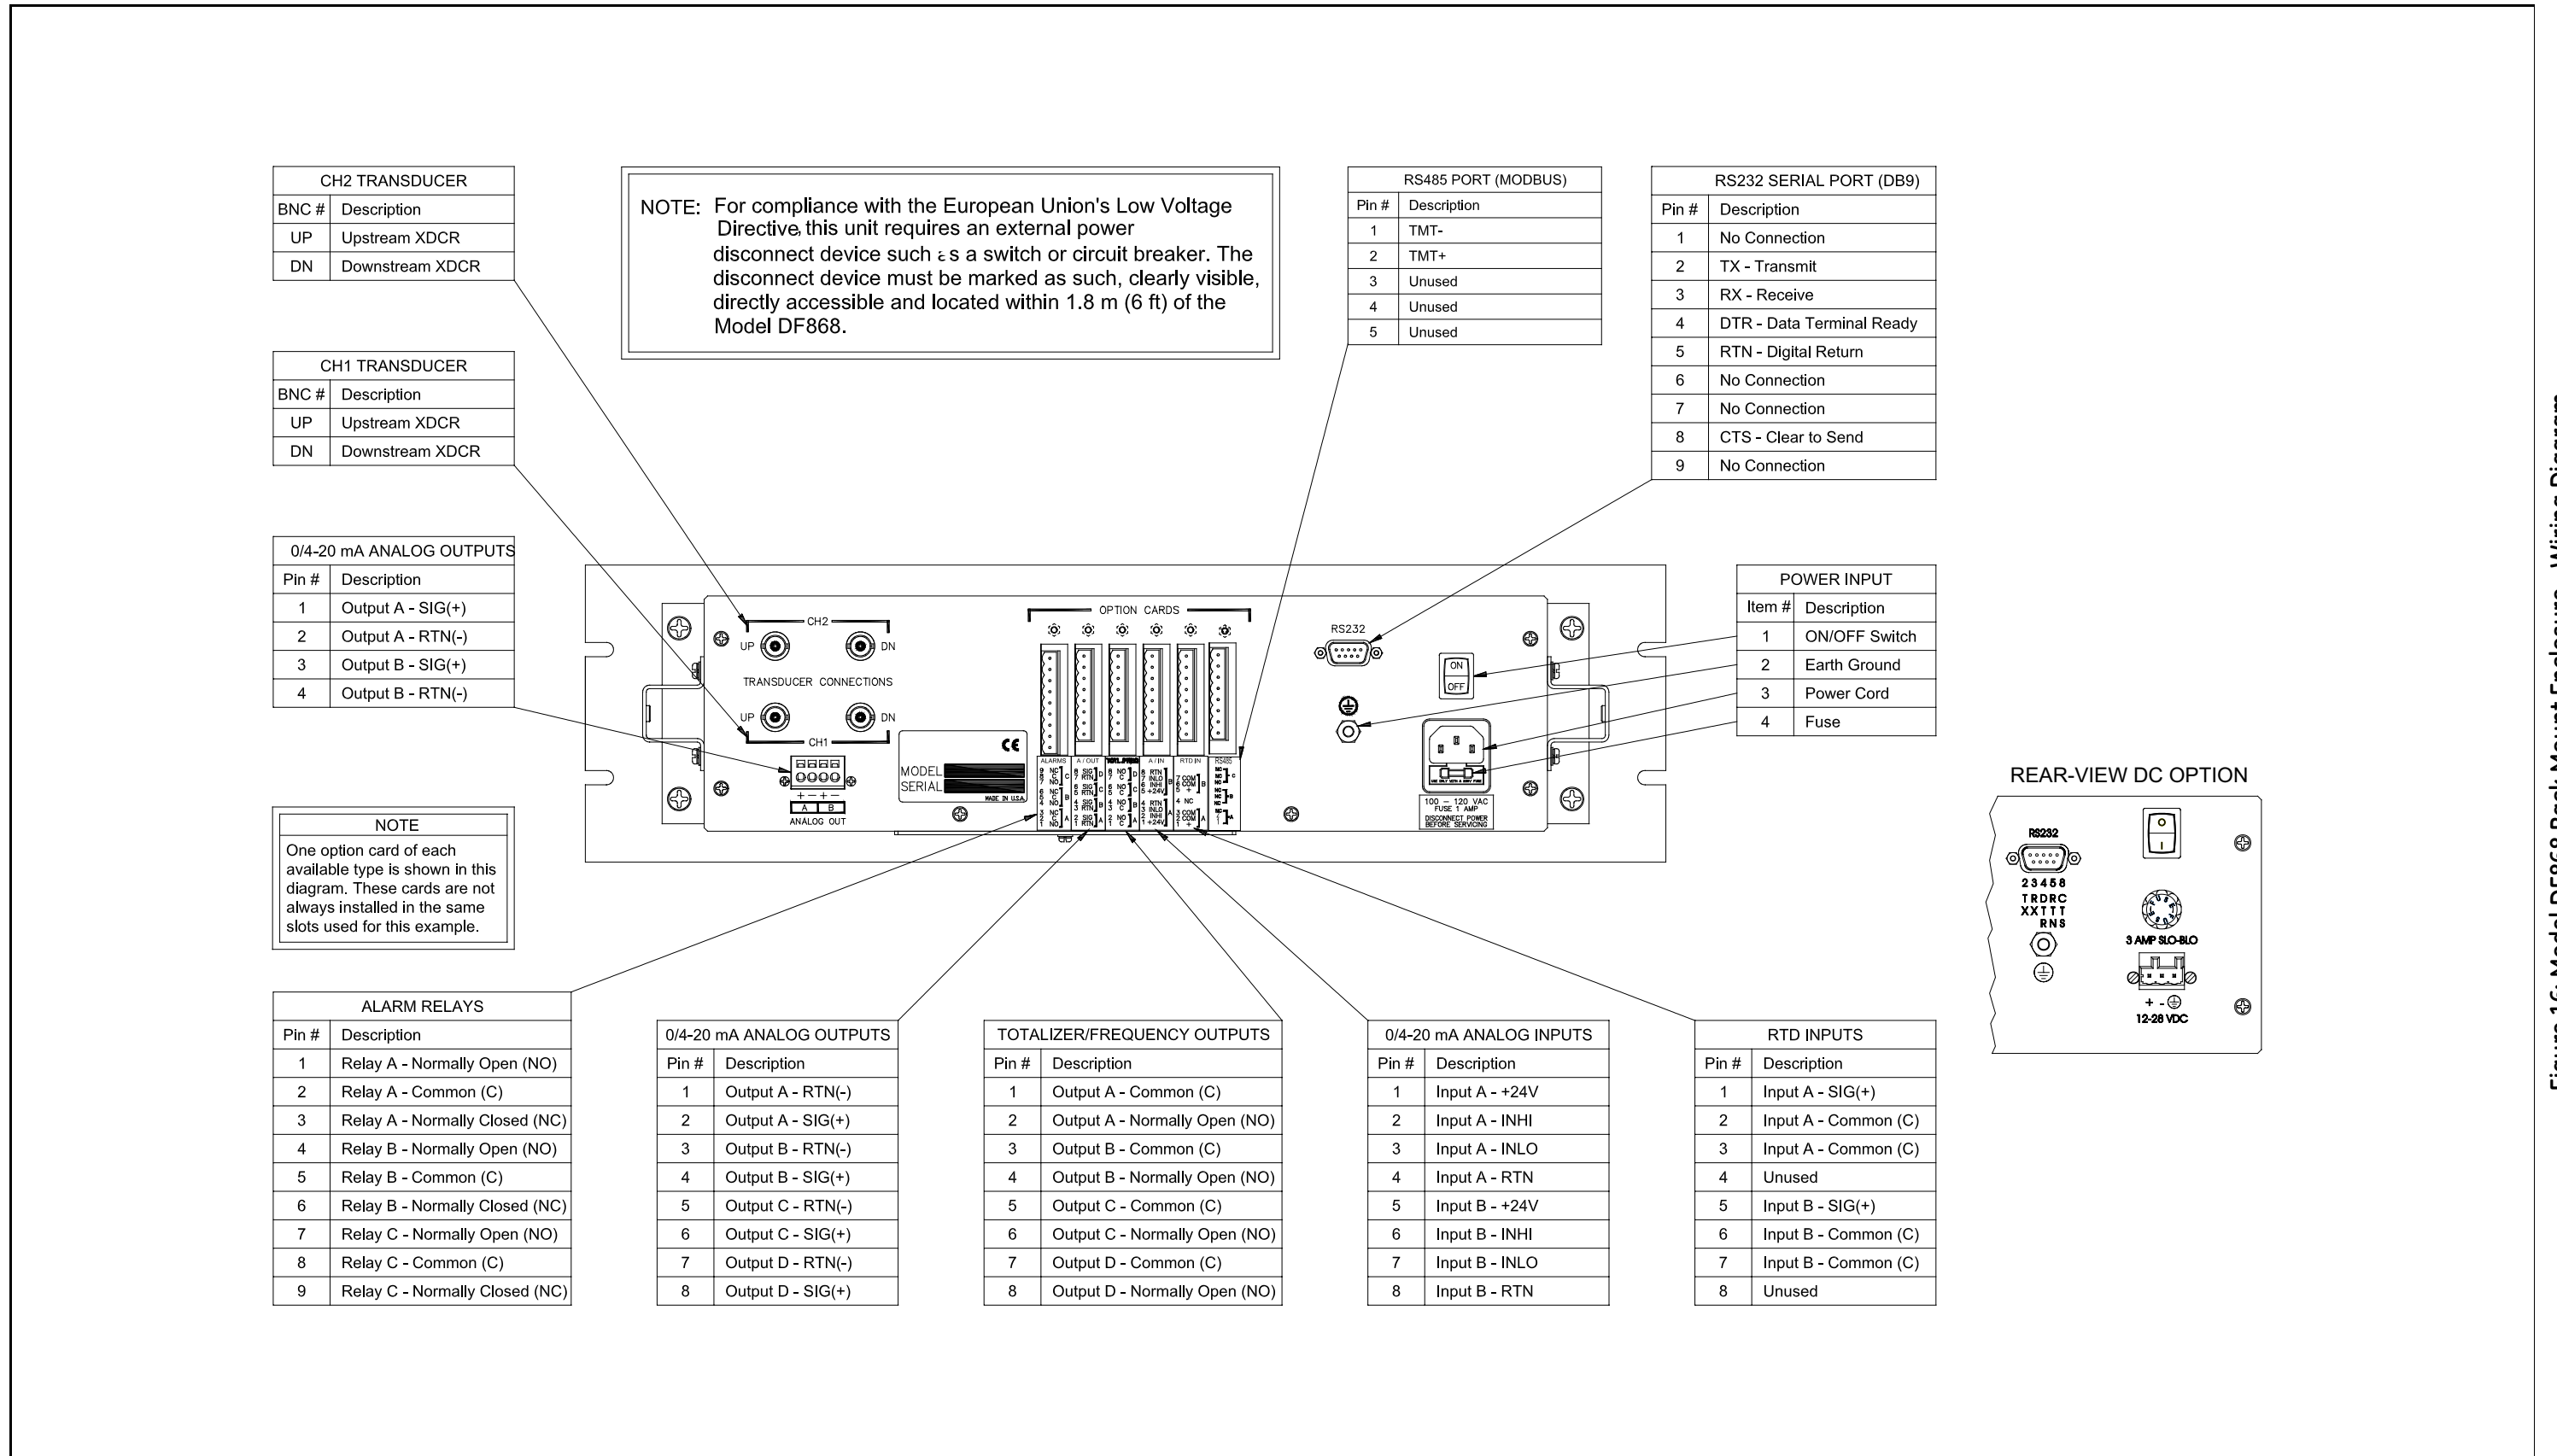

Figure 16: Model DF868 Rack Mount Enclosure - Wiring Diagram
The rack mount Model DF868 requires exactly the same electrical connections as the standard version. However, the locations and type of connectors used for the various components are different. Refer to Figure 16 on page 58 and complete the following steps:
- a. Purchase or prepare a suitable serial cable. This cable should have a standard female DB9 connector, wired as shown in Figure 16 on page 58, for connection to the rear panel of the Model DF868. The other end should be as required for the external device.
5. Wire any installed *option cards* using the same procedures described in Chapter 1, *Installation*, of this manual and the pin # assignments shown in Figure 16 on page 58.